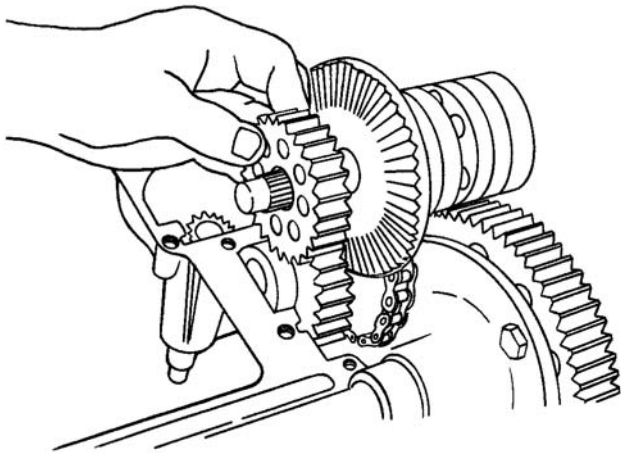

Figure 5-39. Removing High Gear From Shaft
- Remove high gear from drive shaft. Inspect for wear. Replace if necessary. See Figure 5-39.